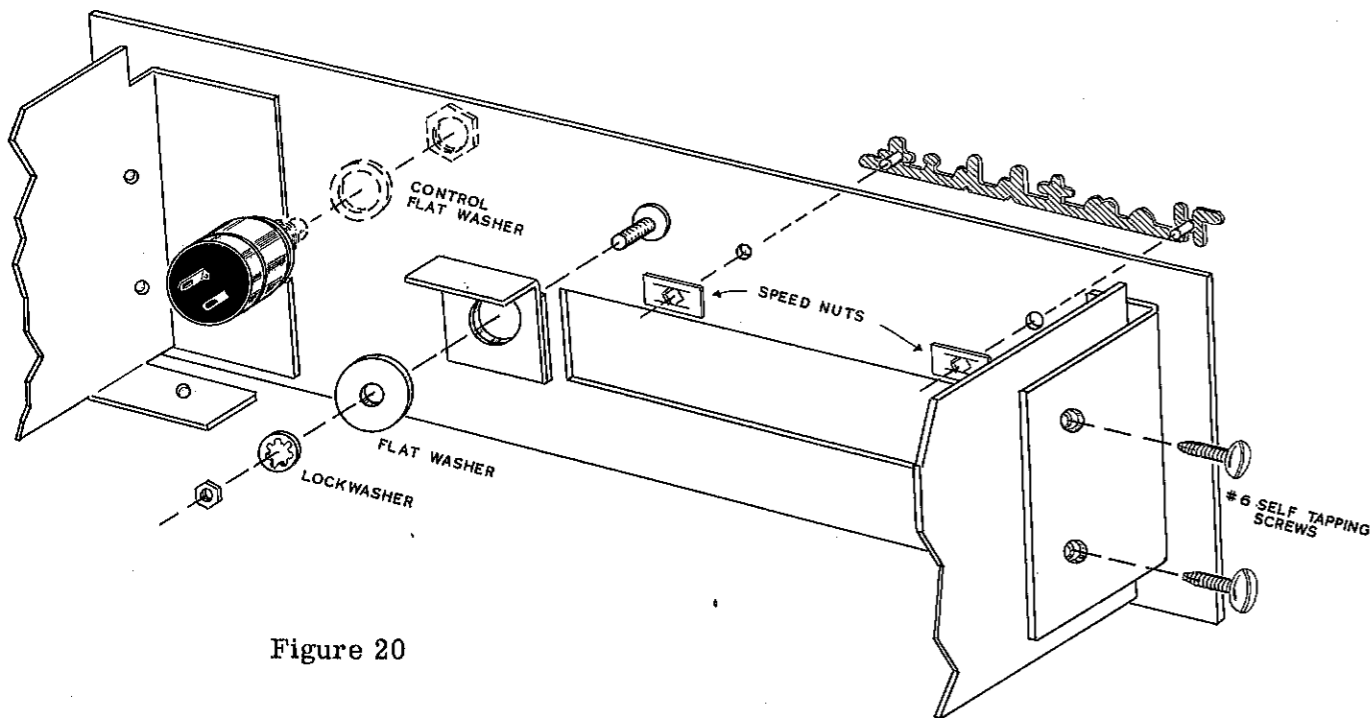

Figure 20
- ( ) Place the panel reinforcing bracket over the stud at the center of the front panel, as shown in Figure 20. The stud goes through the bracket, a large 9/16" flat metal washer, a lock-washer and nut. Tighten in place with the bracket flange slightly below and parallel with the top of the panel. Note: Avoid bending the front panel during construction and installation of the tuner, for the glass will crack under excessive strain.
- ( ) Install the top cover. Before sliding in place, engage the free grommet previously installed on the line cord in the slot provided at one end of the cover. Engage the front lip of the cover with the panel clamp as shown in Figures 20 and 22 and let the cover down until the bottom flanges rest on the bottom cover. Fasten in place by inserting two 6-32 self-tapping screws through the two small holes in the top rear flange of the shell. These screws will pass through slots in the rear panel and thread into the end brackets.